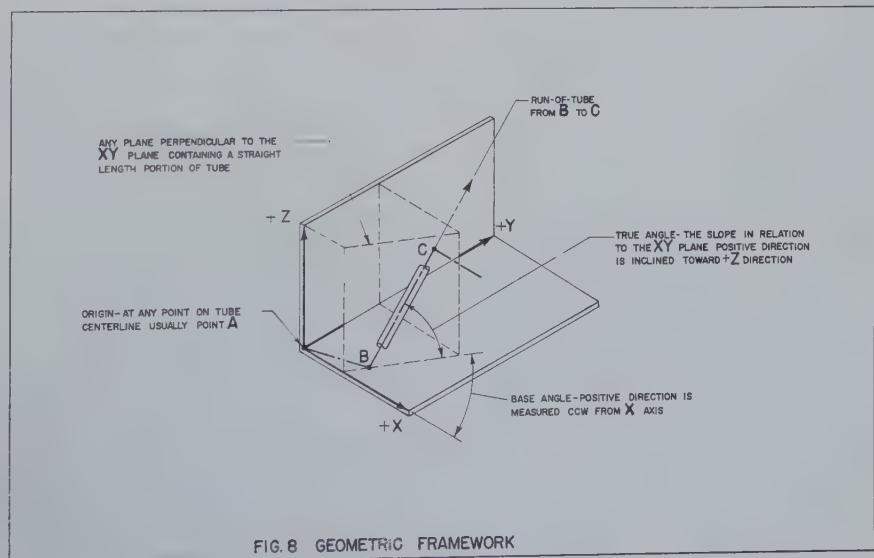
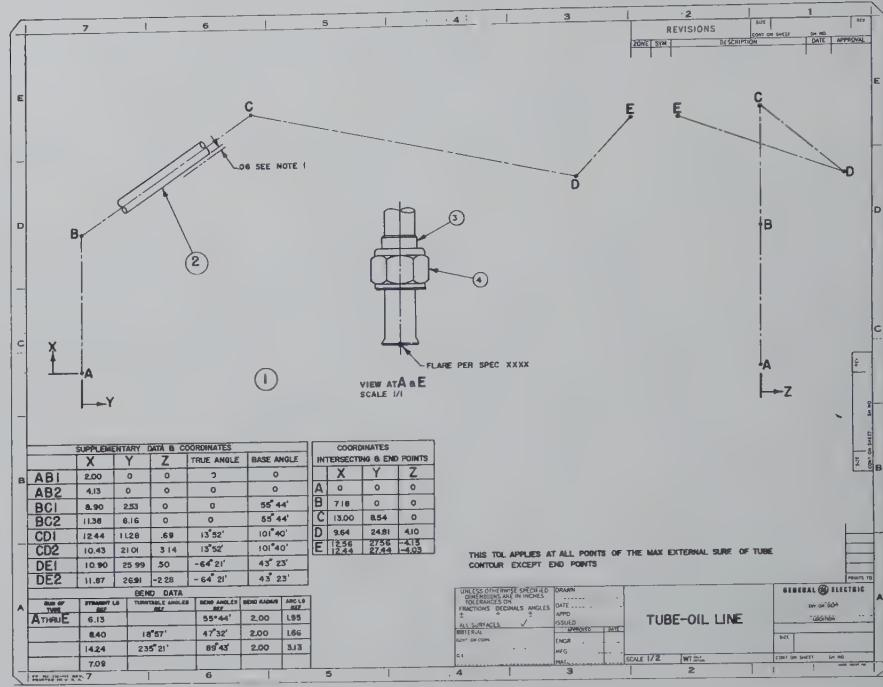

FIG. 8 GEOMETRIC FRAMEWORK
FIG. 9 DETAIL DRAWING OF TUBE (NEW METHOD)
Three coordinate planes are used as the datum system for defining the tube. The intersection of these three mutually perpendicular planes form the X, Y, and Z axes. The positive direction of these axes are shown in Fig. 8. When specifying the identification and the positive direction of these coordinates the "right hand rule" is applied. When looking at the positive direction of the Z axis, the positive direction of the X axis is displaced clockwise from the positive direction of the Y axis. The coordinate axes are completely defined on the drawing by delineation or note with the positive directions and point of origin indicated.
When the input data sheet is completed, it is submitted to the computations section. The data is key-punched on cards and after the computer has completed the program, the resulting output data is returned to the engineering drafting section. A simplified drawing of the same tube which is defined by the detail drawing shown in Fig. 4 is now prepared as shown in Fig. 9 which records the data defining the tube. You will note that only the two principal views of the tube are shown, using only the centerline of the tube for delineation purposes. The XYZ axes are taken at point A as the point of origin. All of the auxiliary views required to develop, delineate, and dimension the straight lengths, bend angles, and angles of rotation in Fig. 4 have been eliminated. All of this data is now provided by the computer. In addition to specifying in tabular form the transformed XYZ coordinates, the drawing may record the following additional useful data which is also provided by the computer:
termediate points on the straight lengths needed for inspection purposes. This data is illustrated in Fig. 9. For example, points CD1 and CD2 are two intermediate inspection points on straight length C. You will note that for each of these points the true angle and base angle are also specified. As illustrated in Fig. 8 the *true angle* is an angle between the plane established by the XY axes and a straight-length portion of the tube. This angle is contained in a plane perpendicular to the XY plane. This angle is measured consistent with the run-of-the-tube so that a positive angle indicates that the run-of-the-tube is inclined towards the positive direction of the Z axis. A negative angle indicates that the run-of-the-tube is inclined towards the negative direction of the Z axis. As illustrated also in Fig. 8, the base angle is an angle in the plane established by the XY axes between the X axis and the intersection of a perpendicular plane containing a straight-length portion of the tube. This angle is measured counterclockwise from the X axis.
2. Bend Data Information. This includes all of the data required to manufacture the true configuration of the tube such as the straight lengths, angles of rotation, and bend angles as illustrated in Fig. 9.